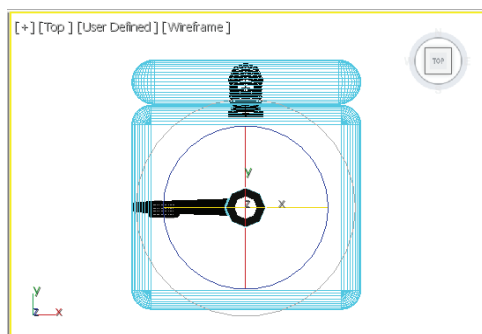

Figure 3-46 A circular gizmo displayed at the location of the working pivot point
21. Activate the Top viewport and then choose the **Select and Rotate** tool; a circular gizmo is displayed, as shown in Figure 3-46.